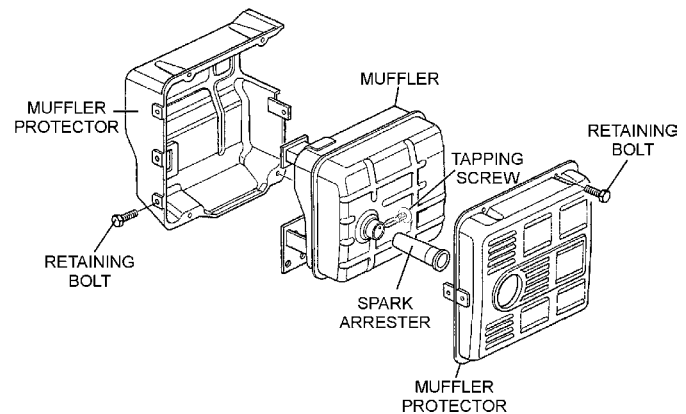

Figure 35. Spark Arrester Removal
1. Remove the muffler protector retaining bolts (Figure 35), then remove muffler protector.